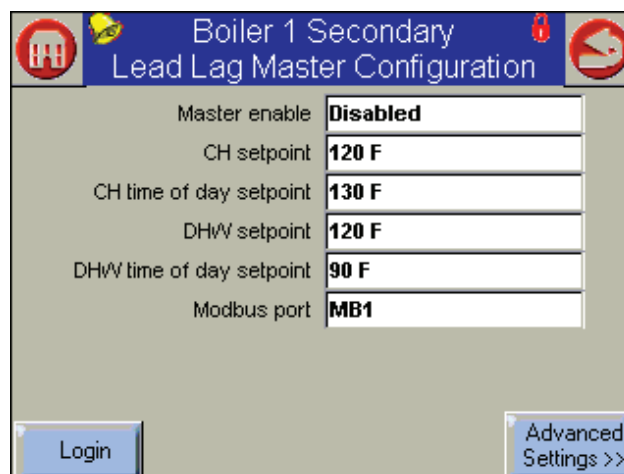

Fig. 64 – Lead/Lag Master Configuration
- Scroll down through the list until you find the line for LL Master Configuration. See Fig. 64.